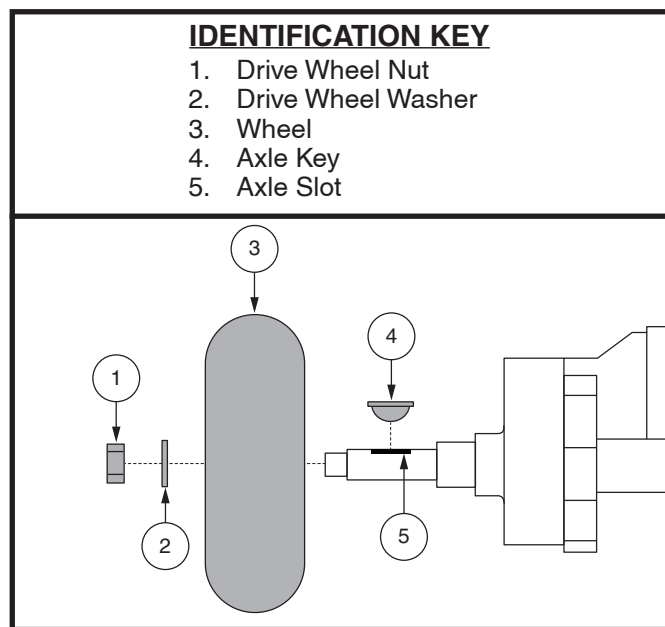

Figure 38. Wheel Replacement
3. Remove the drive wheel nut and washer from the axle. **See figure 38.**